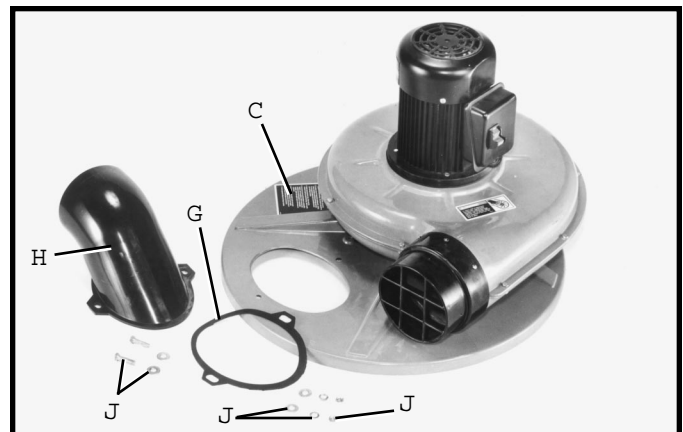

Fig. 6
4 Carefully turn the assembly over. Place gasket (G) Fig. 6, over two holes in cover (C) and secure upper inlet elbow (H) to cover with two 3/8-16 x 1-1/4 hex head screws and flat washers (J), as shown in Fig. 7.